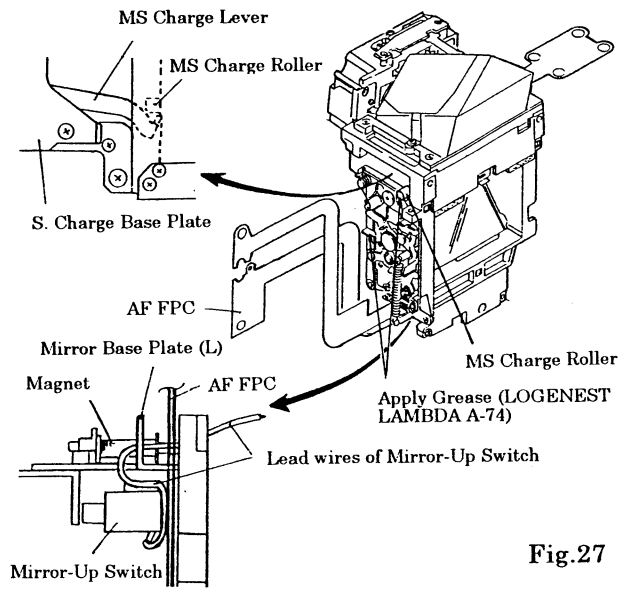

Fig.27
(See Fig. 27)
- a) Pass the White and Gray lead wires coming from the Mirror-Up Switch through between the Mirror-Up Switch and the AF FPC and between the Mirror Base Plate (L) and the Magnet. Then lead these lead wires out in front of the Mirror Box.
- c) After installing the Mirror Box Ass'y, make certain that the MS Charge Roller of the Mirror Box Ass'y and the MS Charge Lever of the S. Charge Base Plate Ass'y are positioned as shown in Fig. 27.